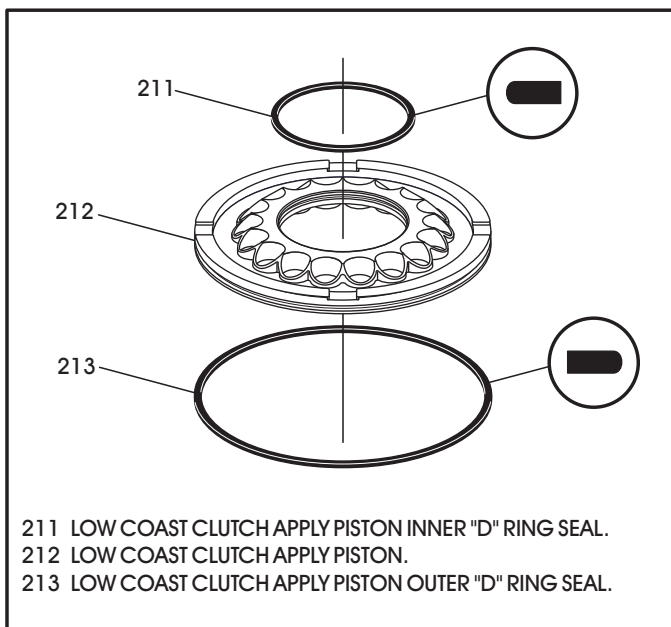

Figure 76
21. Install new "D" ring seals into the grooves of the low coast piston, as shown in Figure 76, and lube with small amount of Trans-Jel®.